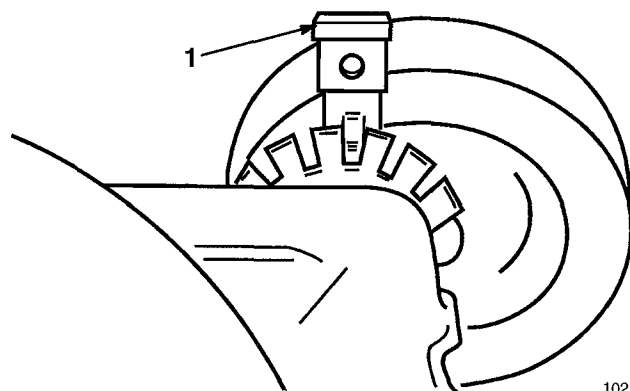

Figure 13
1. To change cutting height pull adjusting lever toward wheel and move to the desired position (Fig. 13).